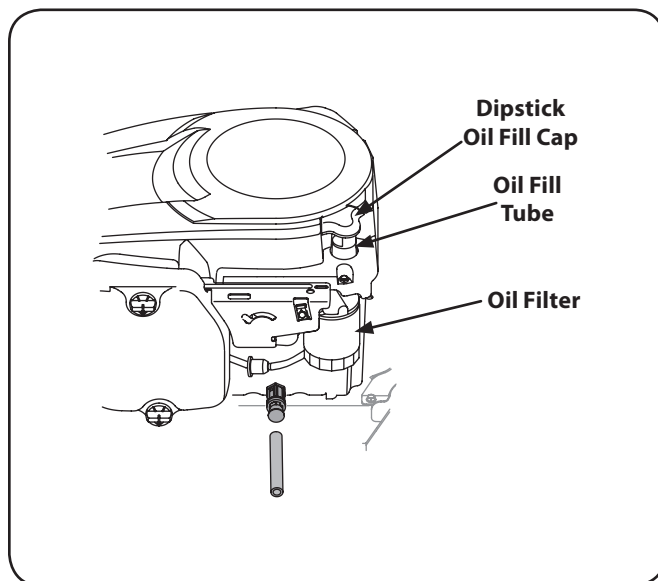

Figure 6-1
2. Pop open the protective cap on the end of the oil drain valve to expose the drain port. Refer to Figure 6-1. Remove the oil fill cap/dipstick from the oil fill tube.